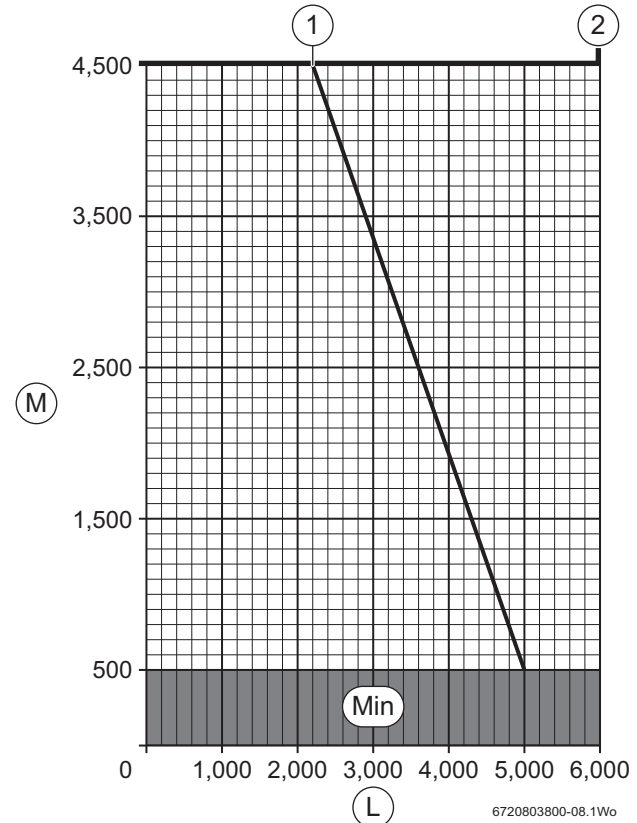

Fig. 19 Effective flue lengths versus plume management lengths
Refer to figure 19 to determine the appropriate plume length (M) versus the flue length (L).